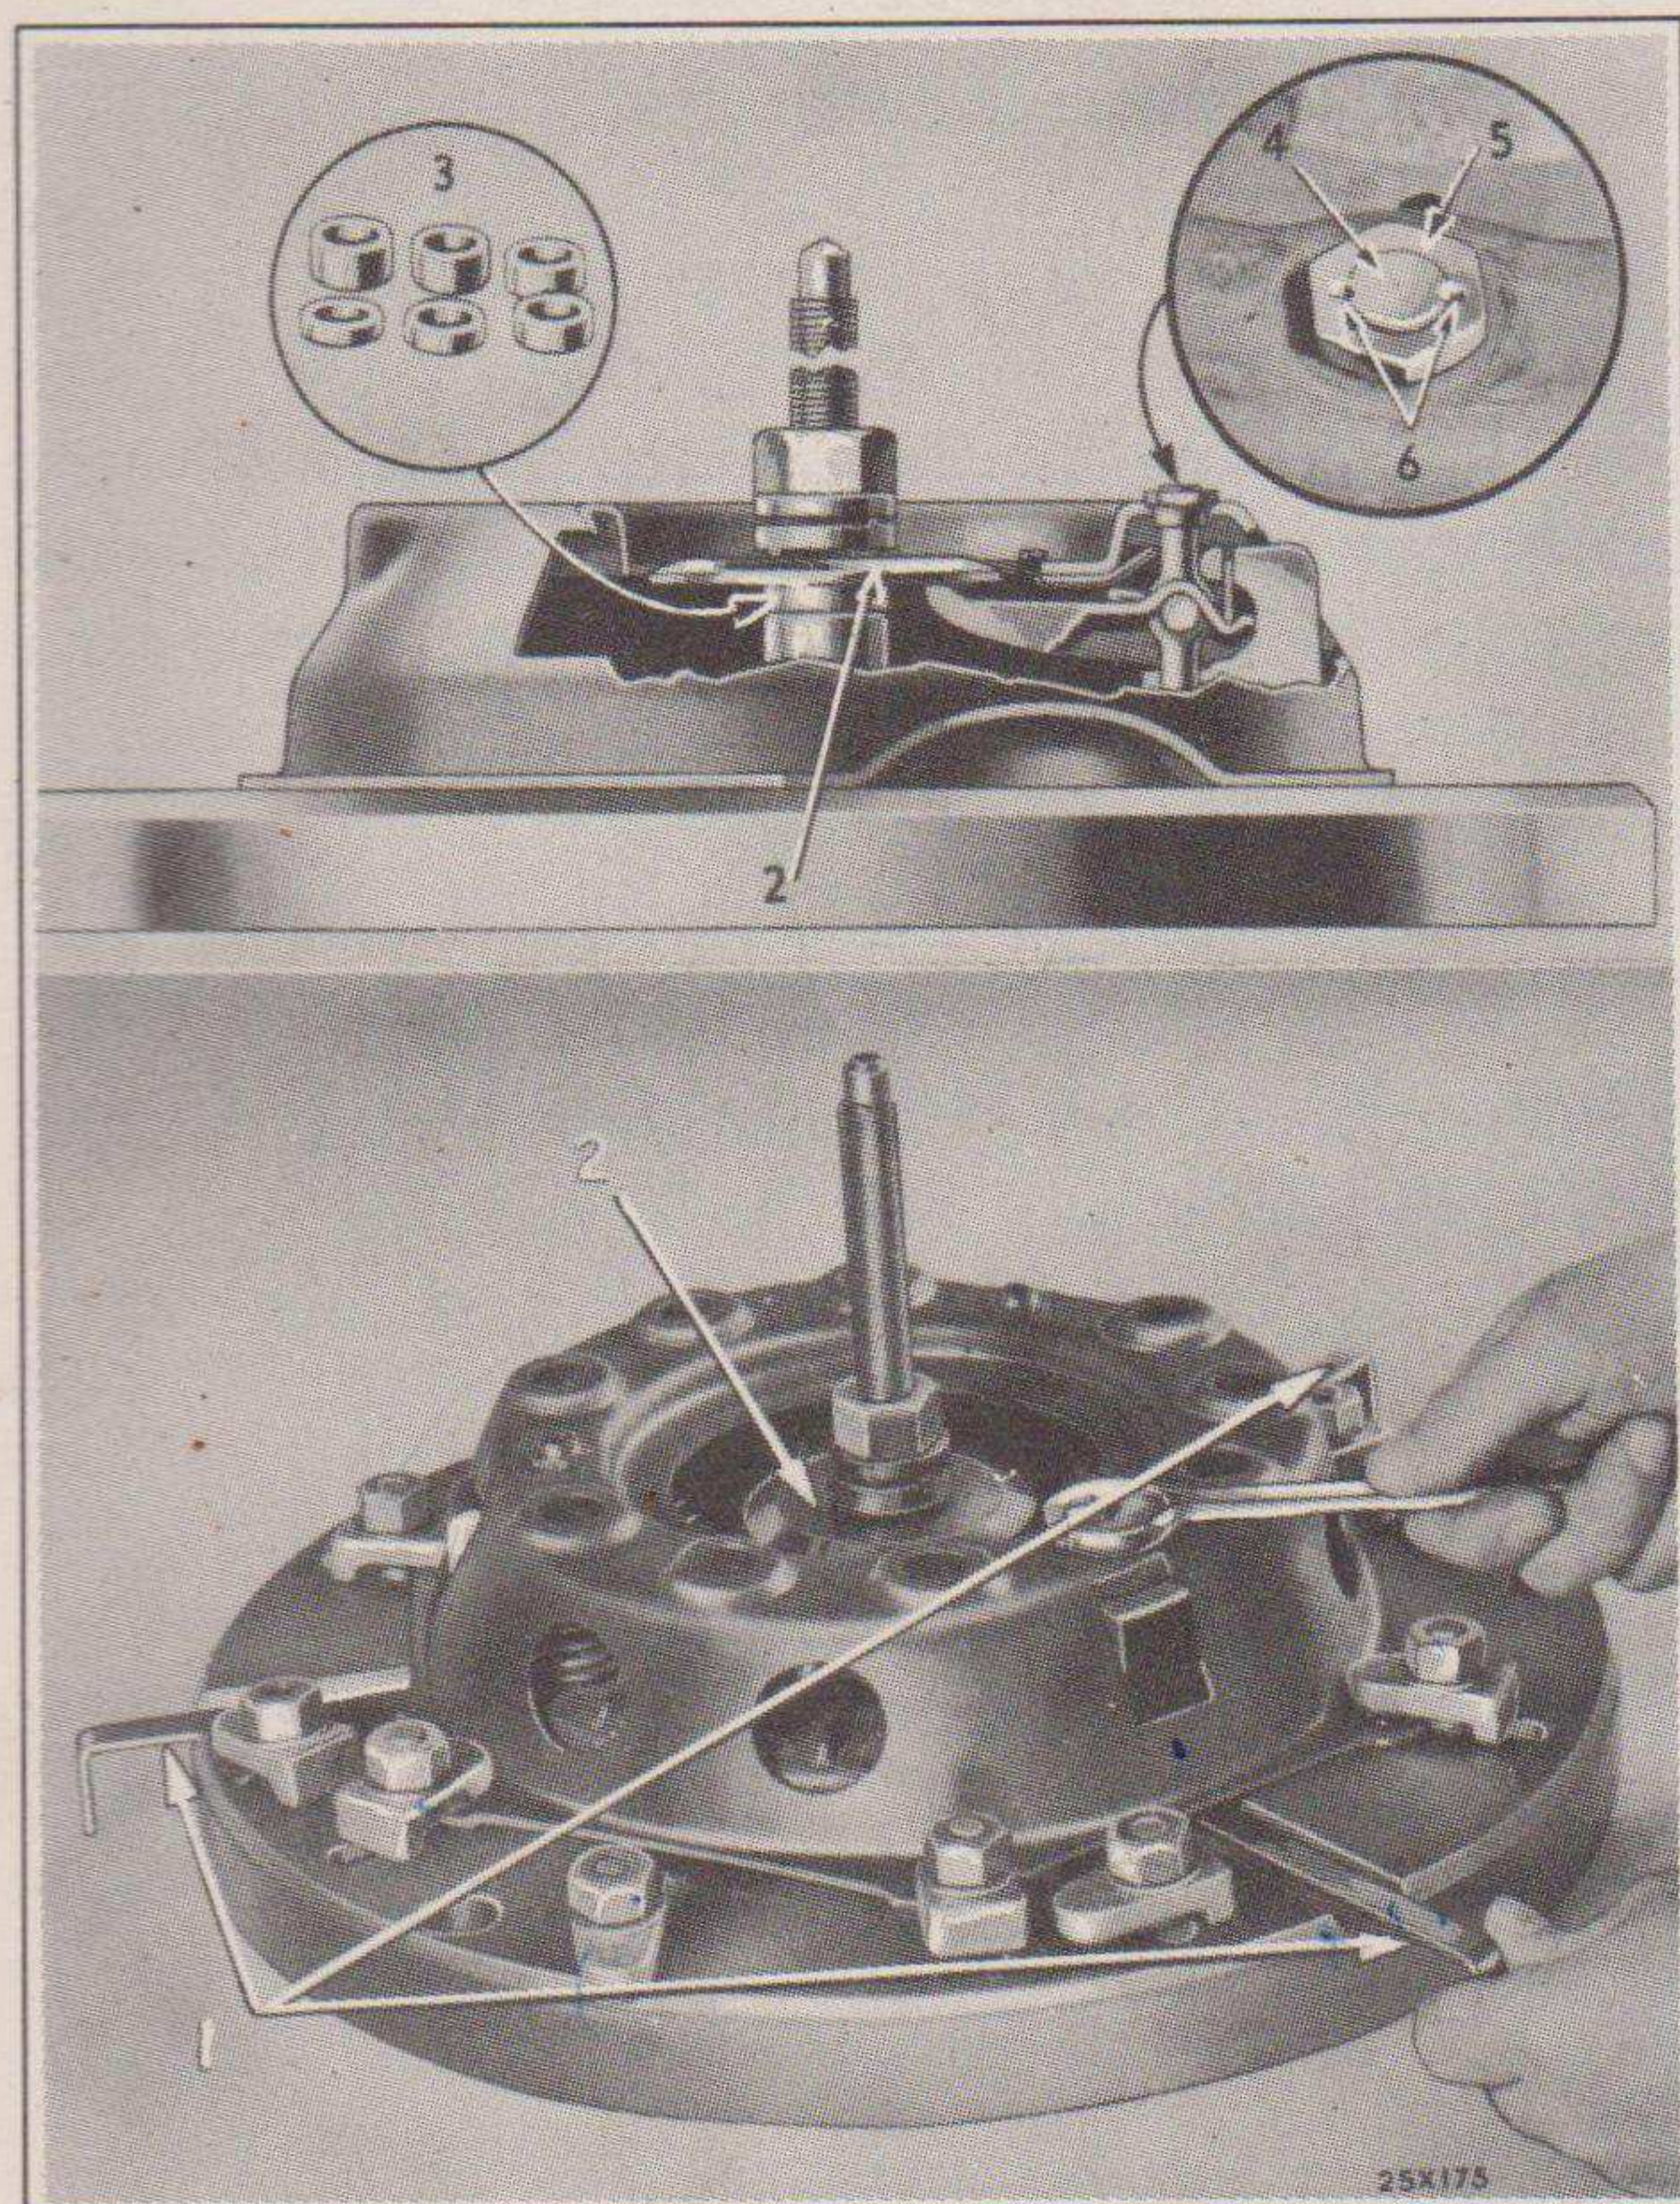

Fig. 93—Adjusting Clutch Release Levers
- (a) Mount the clutch cover and pressure plate assembly on the fixture (C-585) with the release levers over the feeler gauges in the base of the fixture. See Fig. 93.
- (c) Install the compression plate (2, Fig. 93) on the center screw. Make sure that it rests directly against the fingers of the clutch release levers. This plate can be reversed for proper clearance depending on the size of the clutch.
- (g) Adjust the clutch release levers until each of the three feeler gauges (1, Fig. 93) have the same slight "drag" or "feel" while being pushed in and out. Tighten the release lever nuts to decrease "drag" and loosen to increase "drag."
make sure each one is adjusted properly, then stake the release lever nuts (6, Fig. 93).